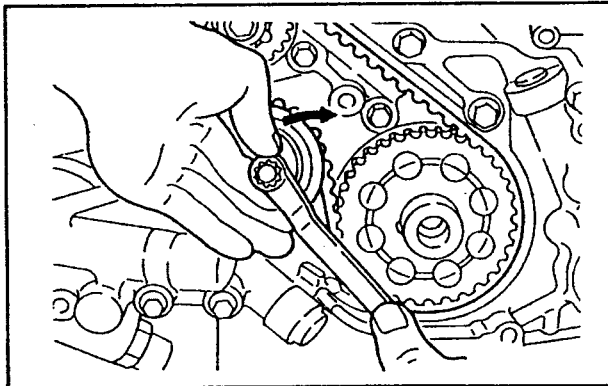

Fig. 15.27. — Tensioning the small toothed belt. Push the tensioner into the direction of the arrow whilst tightening the tensioner bolt.
- Refer to Fig. 15.27 and move the belt tensioner into the direction of the arrow, whilst lifting it with a finger, to give sufficient tension to